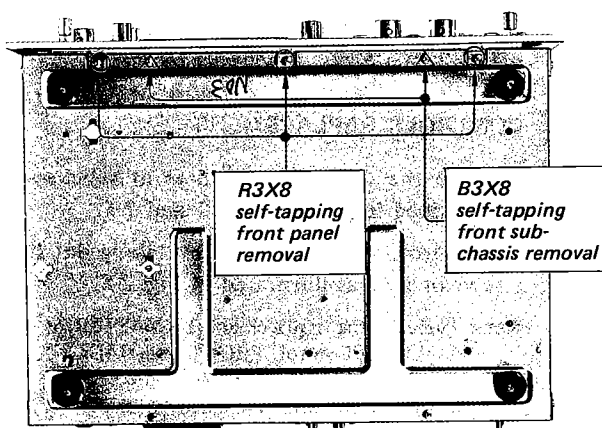
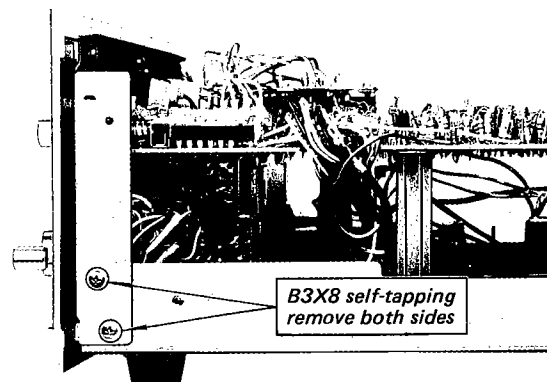

Fig. 2-1. Bottom view
Fig. 2-7. Front subchassis removal
2. Remove the three screws at front top and bottom of the chassis as shown in Figs. 2-1 and 2-2.
1. Remove the two screws at front bottom (See Fig. 2-1), and two screws at each side of the chassis as shown in Fig. 2-7.